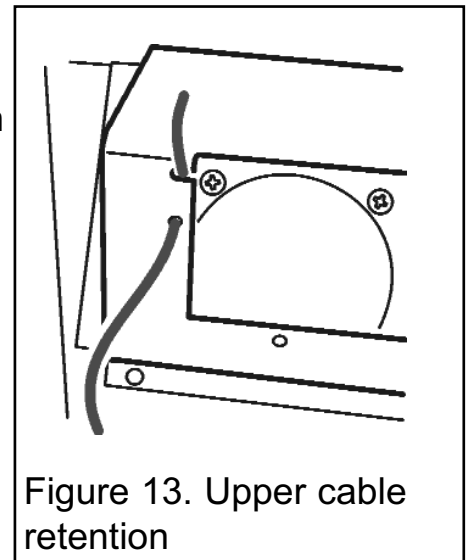

Figure 13. Upper cable retention
5. The rear of the convection box has a slot and hole each side of the outlet opening. Assemble one end of the cable to the top of the fire by passing it through the small round hole and locking by positioning the cable in the adjacent slot (See figure 13). Give the cables a pull so that they grip.